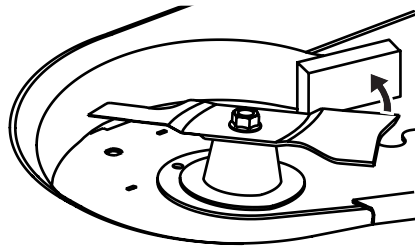

Figure 56
1. Secure the blade from turning counter-clockwise during service by placing a block of wood between the blade and the deck housing, see Figure 56, or wrap a rag around one end of the blade and wear heavy gloves to grasp the blade firmly.